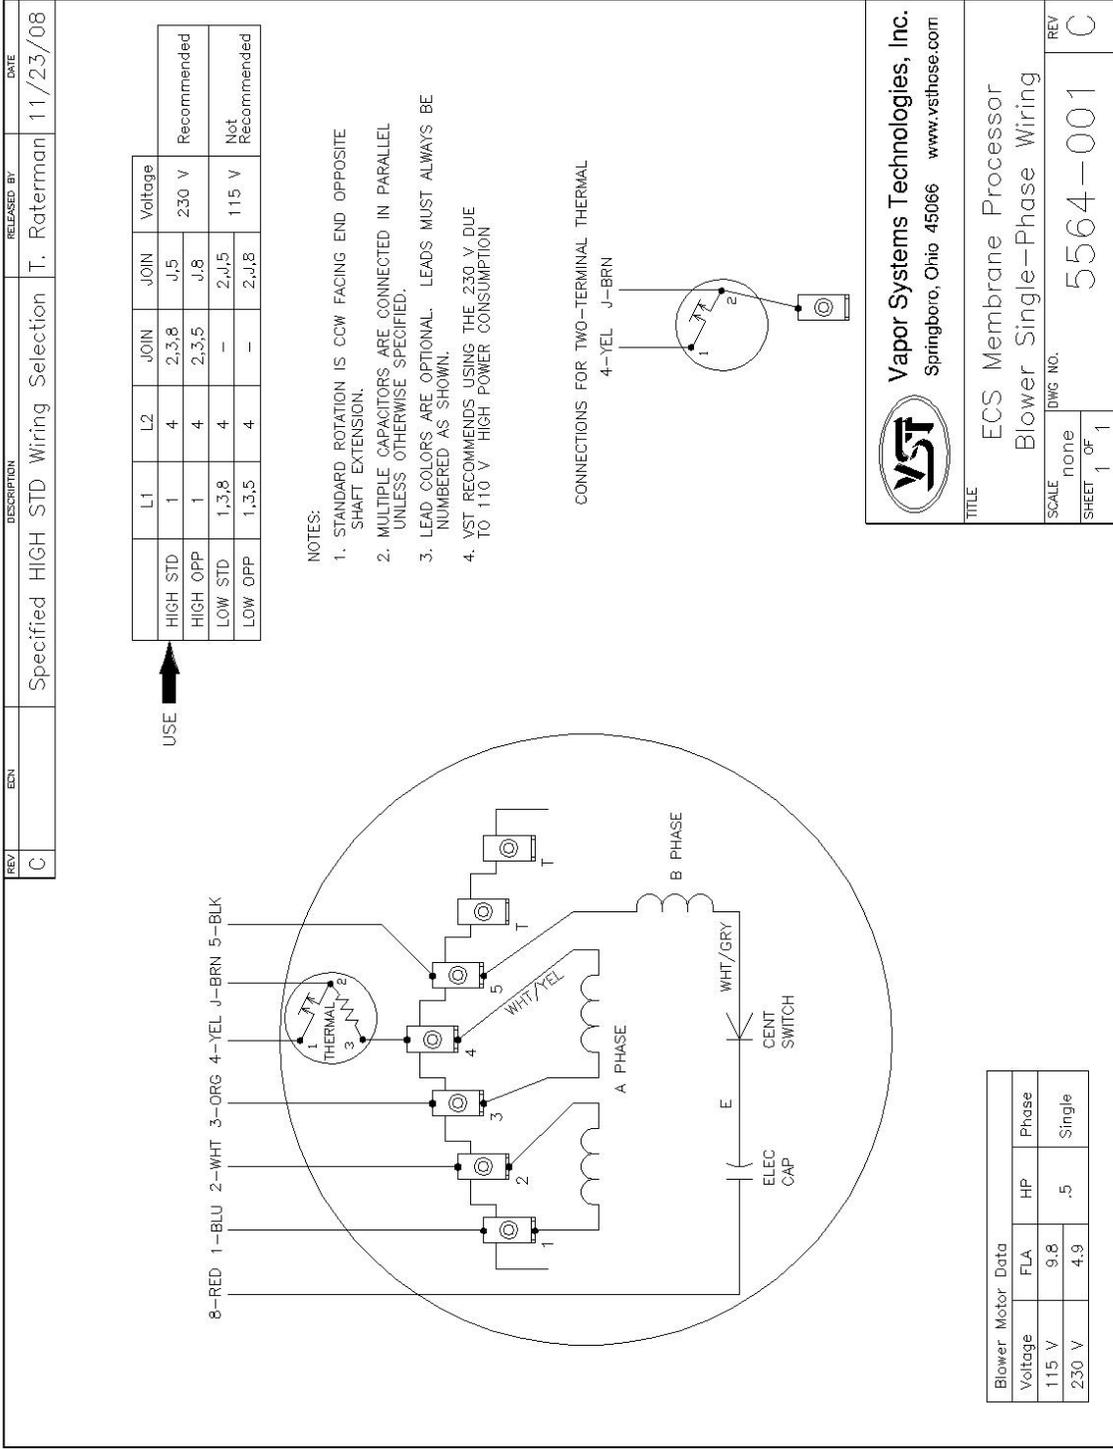
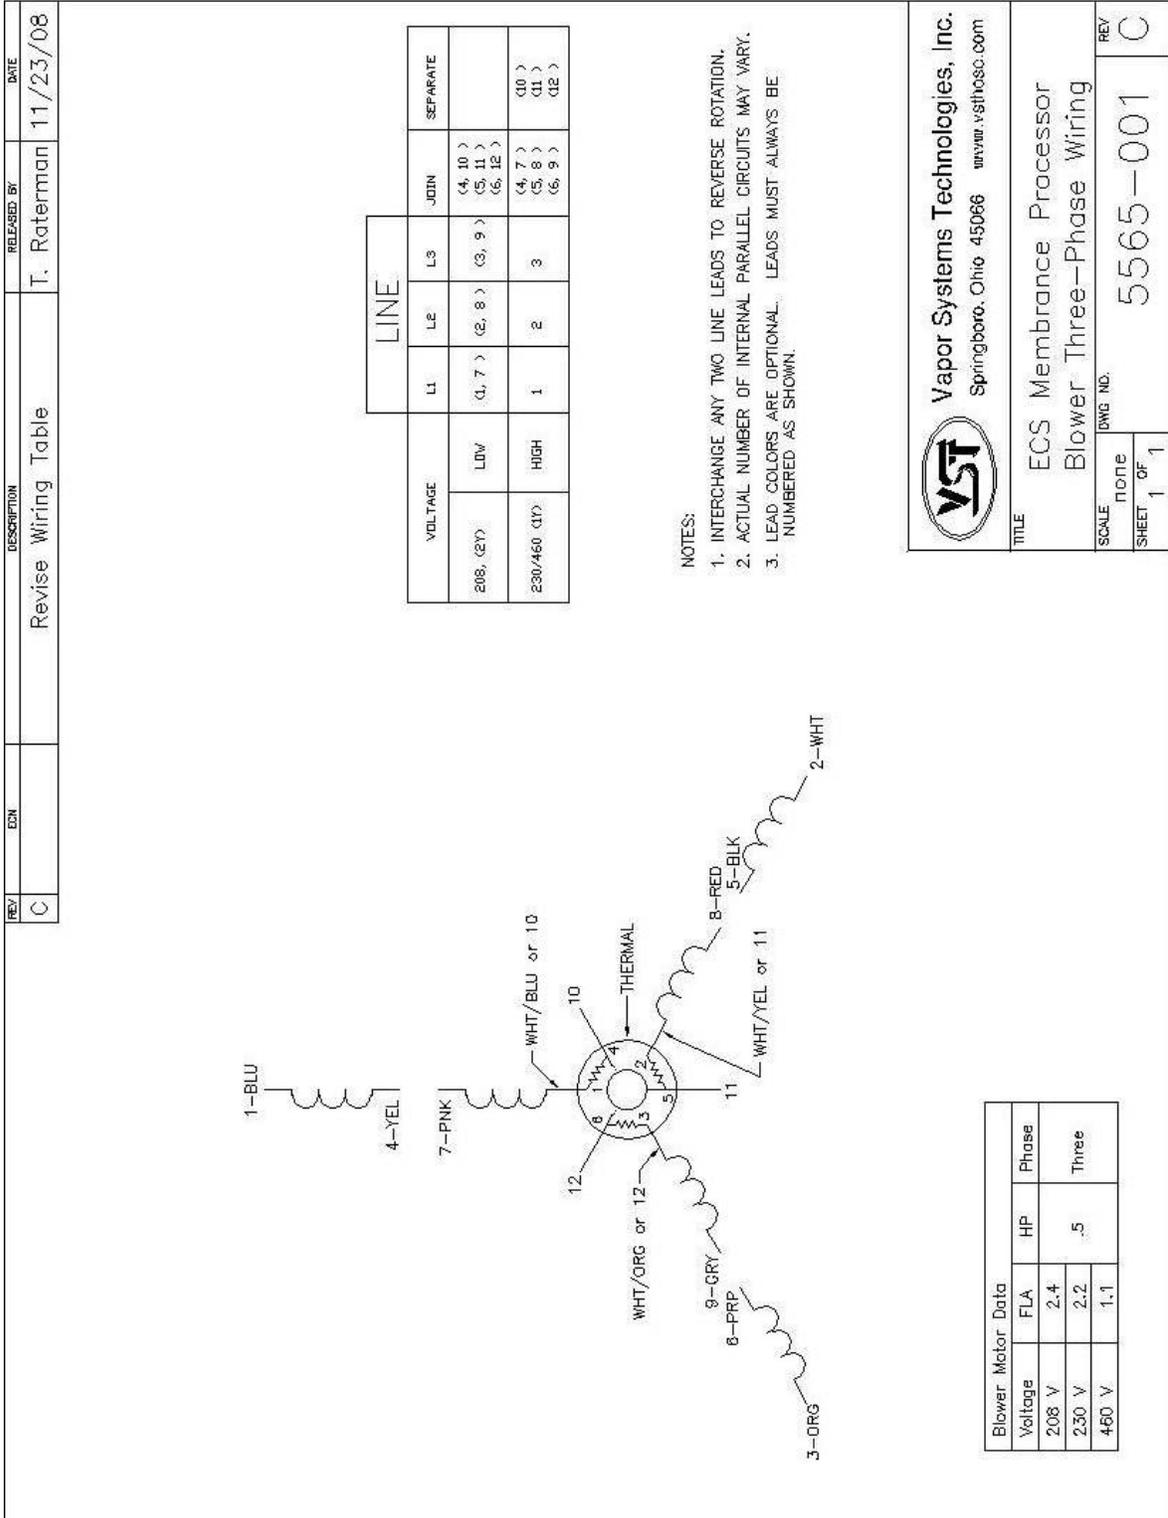

Figure 16: Blower: Single-Phase Motor Wiring Diagram
Figure 17: Blower: Three-Phase Motor Wiring Diagram
- ▶ See Figure 16 and Figure 17.